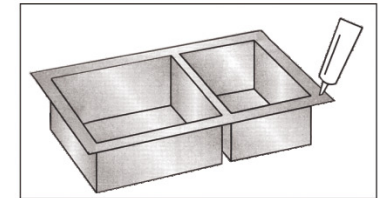

FIGURE 4
7. Lean sink against and underside of cutout area of countertop, making sure that the area is smooth and free of grease. Apply continuous bead of silicone caulk evenly on top of sink flange. (FIGURE 4)